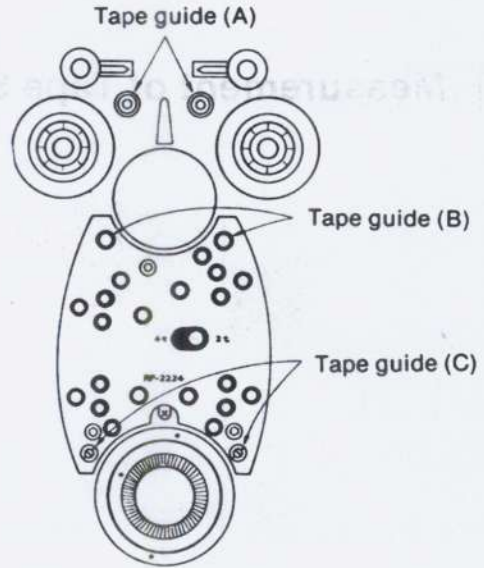

Fig. 31
Six tape guides are used. As shown in figure 31, they are divided into 3 groups (A, B and C). Of these, tape guides (B) are fixed, and thus become the standard for tape movement.